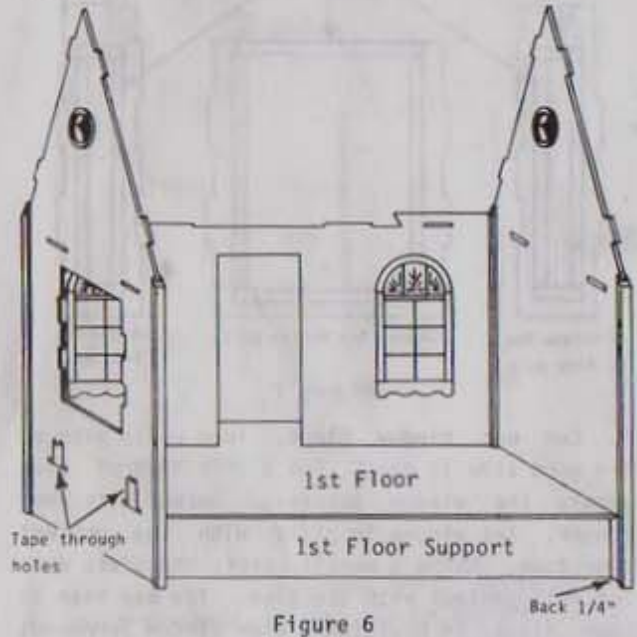

Figure 6
5. Locate 1st Floor (LF-1). Glue 1st Floor into walls. Locate 1st Floor Support (LF-8). Glue in place approximately 1/4" from inside edge of 5-70 on wall edge. Tape well. See Figure 6.